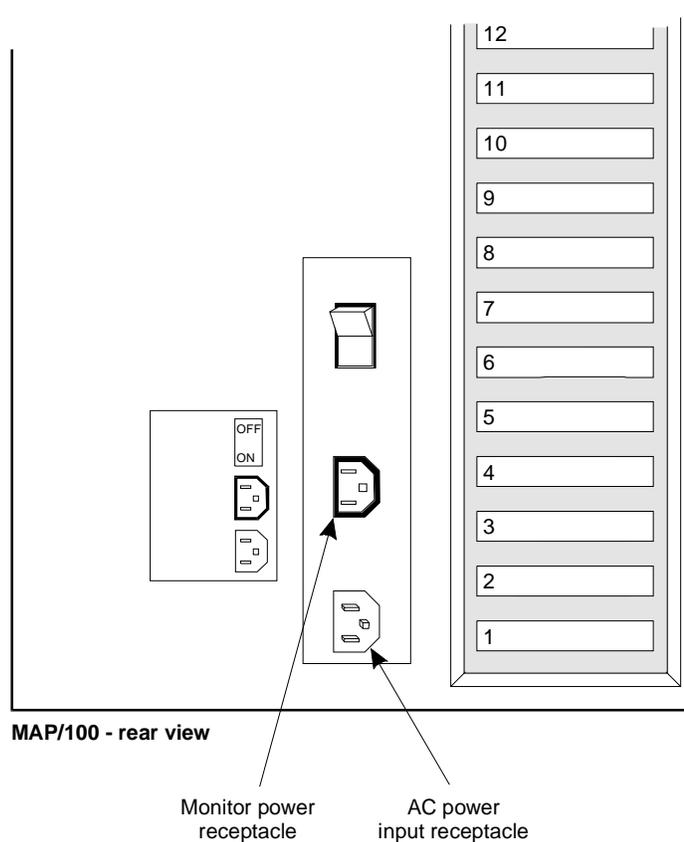

Figure 4-5. MAP/100 Power Connections
The MAP/100 requires a dedicated power line. The power cord connects to the rear of the MAP/100 at the point labeled AC power input receptacle (Figure 4-5). Before you begin any work in the MAP/100 you must disconnect the incoming power.
4. Turn off the circuit breaker on the back of the MAP/100 (Figure 4-5).
6. Remove the MAP/100 power cord from the AC power input receptacle on the rear of the MAP/100 (Figure 4-5).